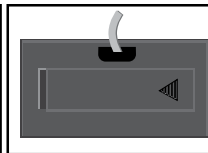

Figure 11.2
2. Carefully slide the battery compartment cover to the right and open up the hinged cover (Figure 11.2).